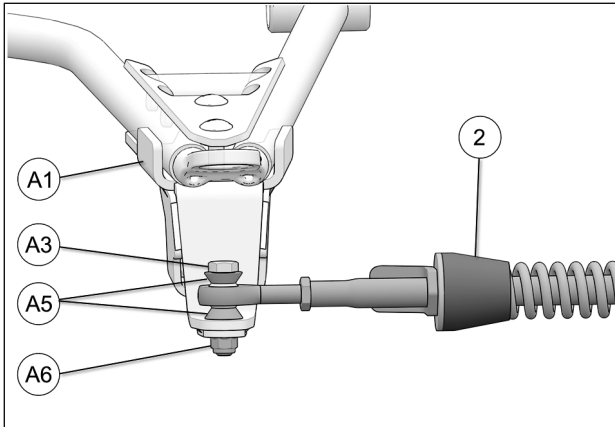

Fig. 18
- Attach the stabilizing rod (2) to the anchor bracket (A1), using the two taper spacers (A5), the M10x55mm bolt (A3), and nut (A6). Torque to 70 N•m [52 lb•ft]. Refer to Fig. 18